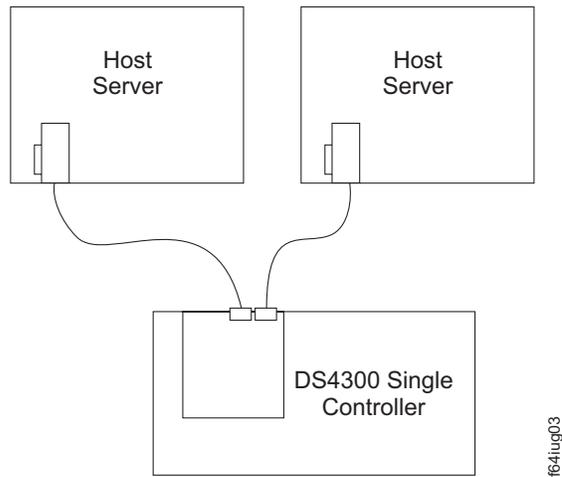

Figure 63. Example of a dual-server configuration with one adapter on each server (Model 6LU/6LX)
- Dual-server configuration with one adapter on each server (Figure 63 on page 79)